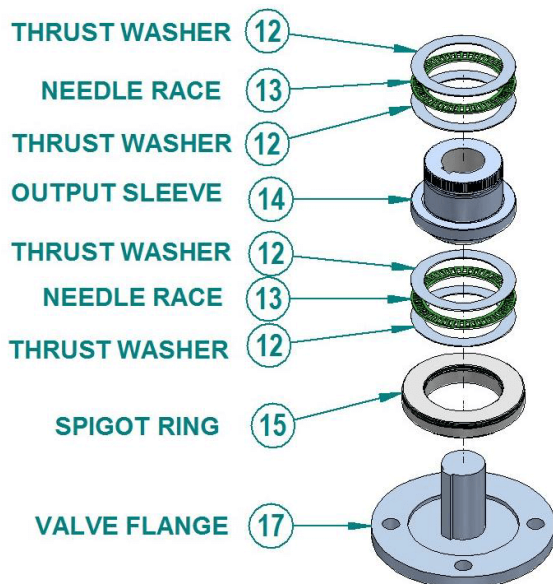

Figure 121: Valve Stem Assembly
It is recommended that the machined output sleeve assembly is assembled on the valve stem/shaft first and then the actuator-gearbox combination lowered to locate on the output sleeve assembly (see Figure 121 and 122 for assembly details).
1. Fit the machined output sleeve (14), thrust bearings (12 and 13) and baseplate spigot ring (15) on the valve shaft as shown in the Figure 121. Bearings should be greased with the appropriate grease. Grease the output sleeve and valve stem/shaft. Note that the spigot ring has an internal and external seal that should also be greased. See step 2 for further instructions.
3. For valves with keyed shafts (non-rising as shown in Figure 121 and 122), align base mounting holes and secure using screws or studs with a minimum tensile strength of 800 N/mm².